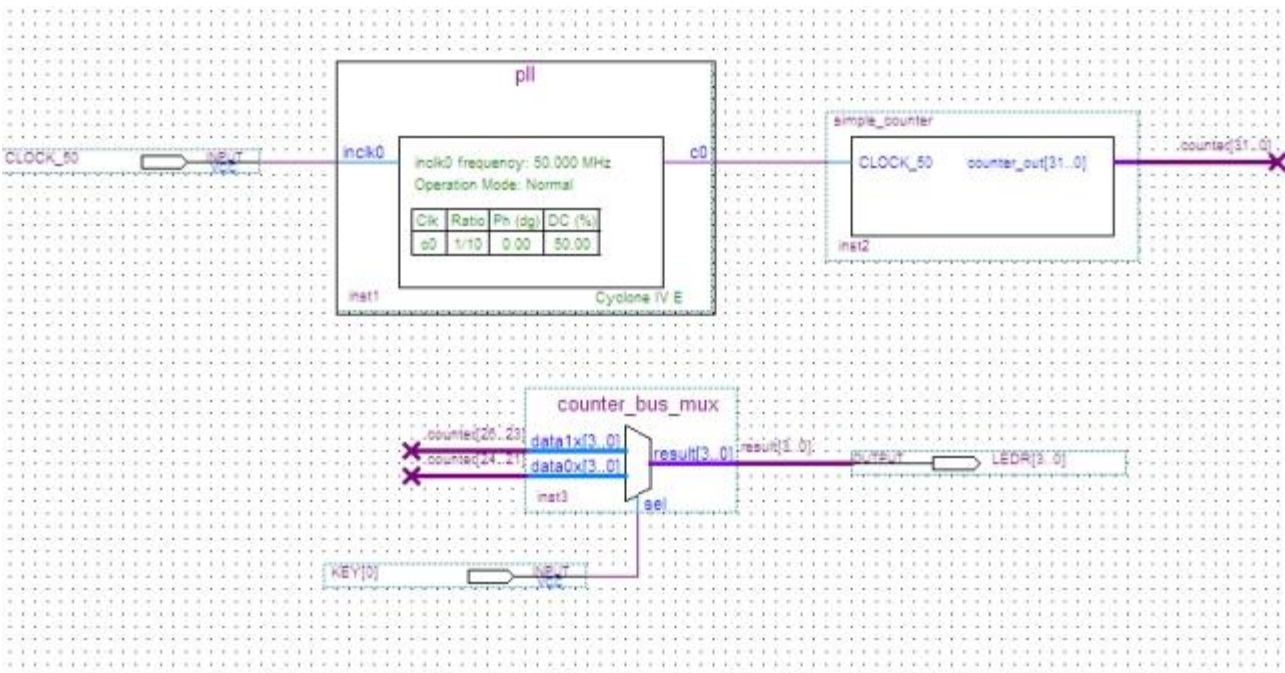

Figure 3-29 Adding the KEY [0] Input Pin
22. Rename the input pin as KEY [0] (see Figure 3-29).